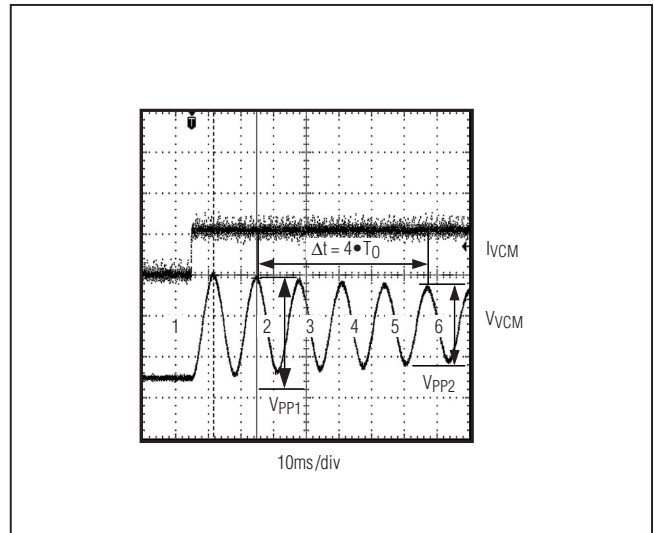

Figure 5. Step Response of Sample VCM
Below is an example calculation for setting f_0 based on the step response of a VCM shown in Figure 5.
- 1) VCM step response shown in Figure 5.